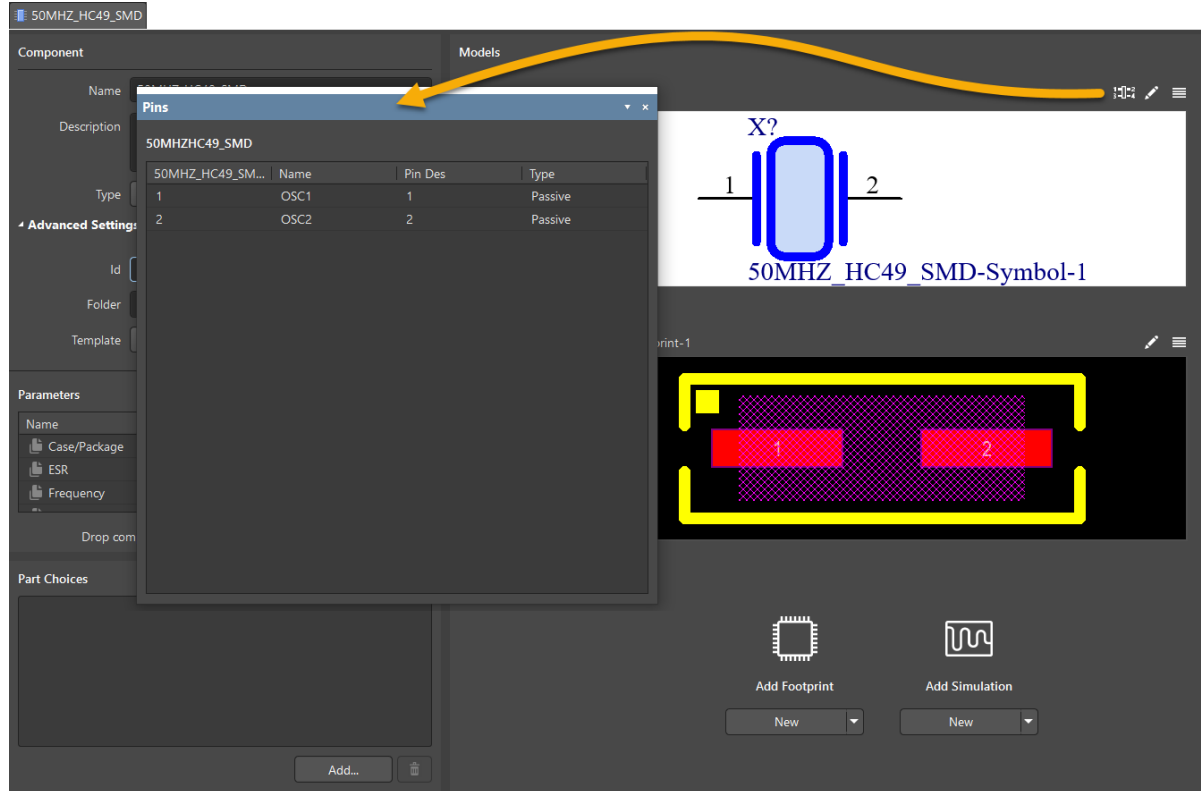

Figure 45. Pin Mapping
71. Select the **Edit Pin Mapping** command , as seen at Figure 45